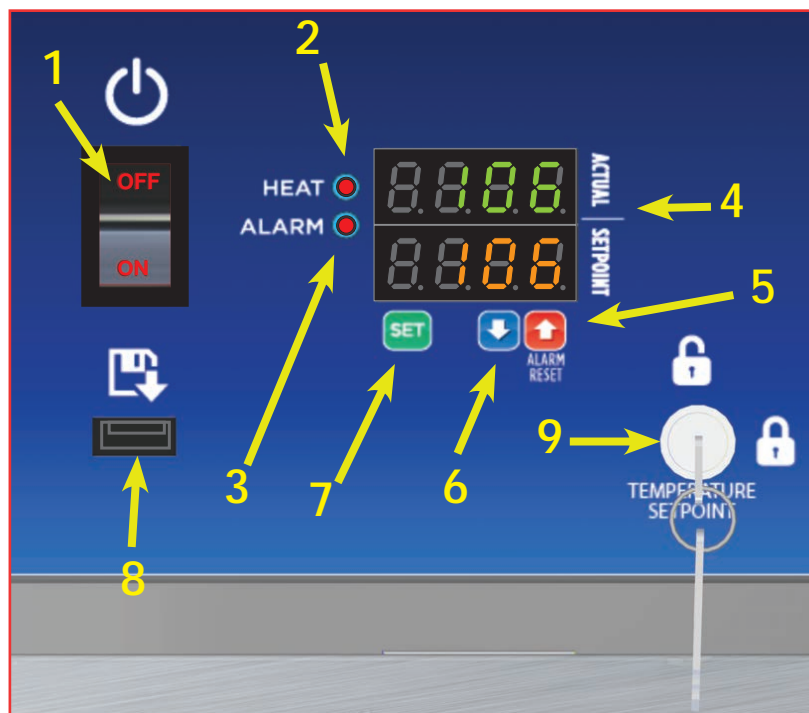

Figure 15: Controller Display
The Controls are located on the upper panel (Figure 15) on the front of the cabinet. For multi-chamber cabinets, there are sets of controls for each individual chamber. Each control set is clearly labeled UPPER CHAMBER and LOWER CHAMBER for dual chamber cabinets and UPPER CHAMBER, MIDDLE CHAMBER and LOWER CHAMBER for the triple chamber cabinets.
4. To prevent adjustment to the setpoint temperature, the control may be locked with the Key Switch (see #9, Figure 15)